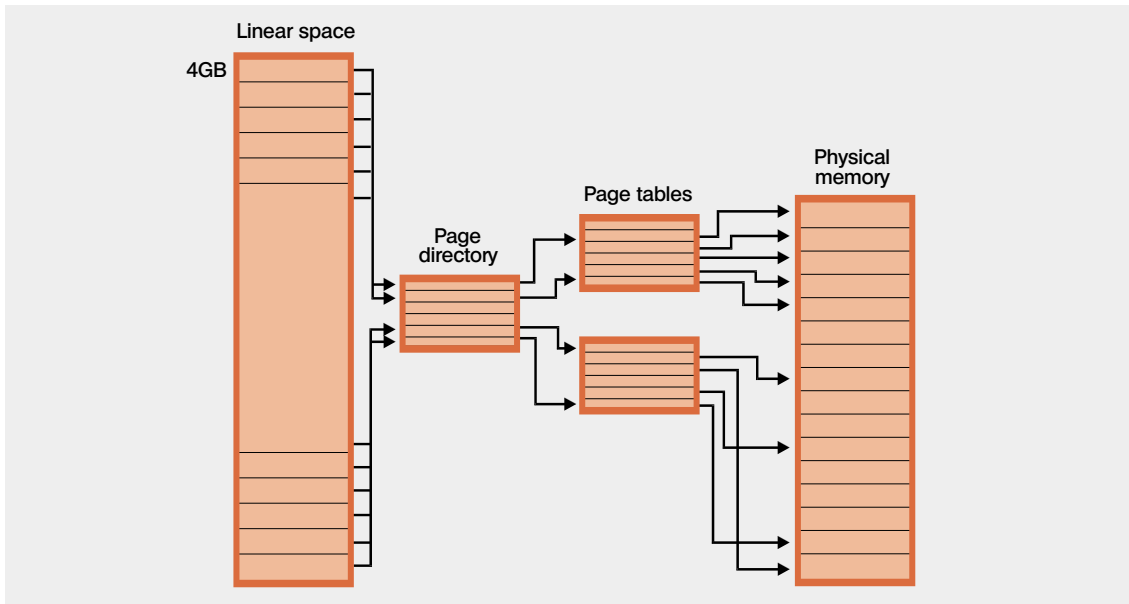

Figure 1. The MMU translates the virtual addresses used by the application into physical addresses applied to memory.
The MMU divides the physical memory into a number of pages, typically 4Kb each. A set of page tables, stored in system memory and managed by the operating system (OS), then map the virtual memory addresses used within application programs to the physical addresses emitted by the CPU. Note that the application uses memory addresses much as it would in a system without an MMU. The difference is that the OS controls how these addresses are mapped onto physical memory. The diagram in Figure 1 shows the mapping of process memory pages to physical memory pages.